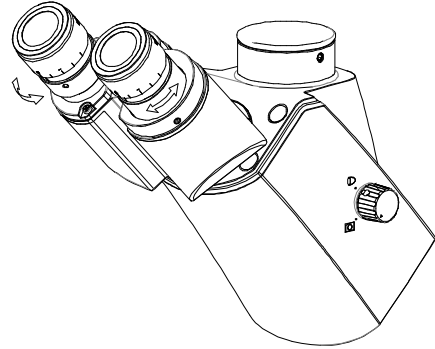

Figure-11 Adjustment Of Diopter
Eyepiece can be tighten by using thumb screw ① (Figure-11), if want to change eyepiece ,must unscrew it ① at first.